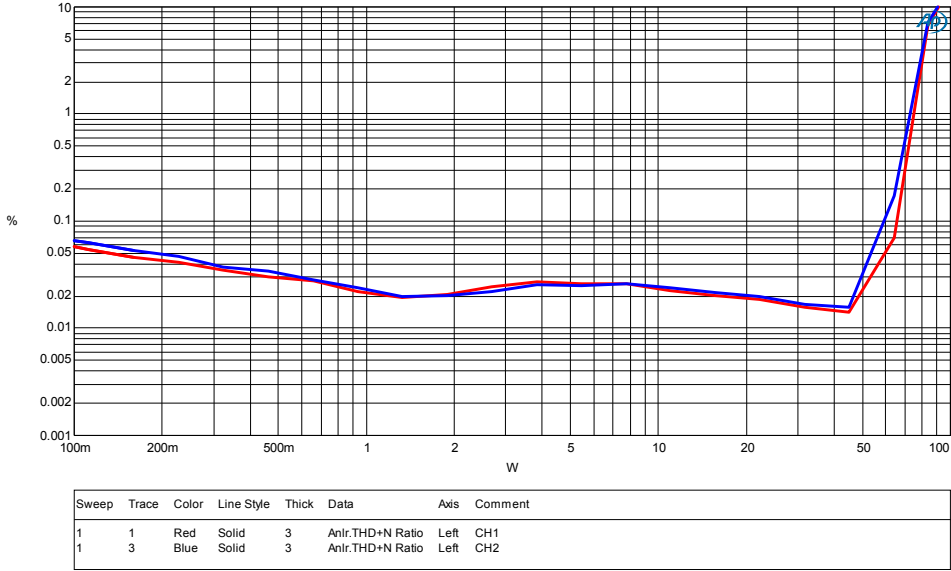

Figure 3
15. For all subsequent tests as shown on the Audio Precision graphs below (Figure 3- Figure7), the measurements are taken across J3 and J4 with an AES-17 Filter. Observe that a 1 V_{RMS} input generates an output around THD+N=1% power level.